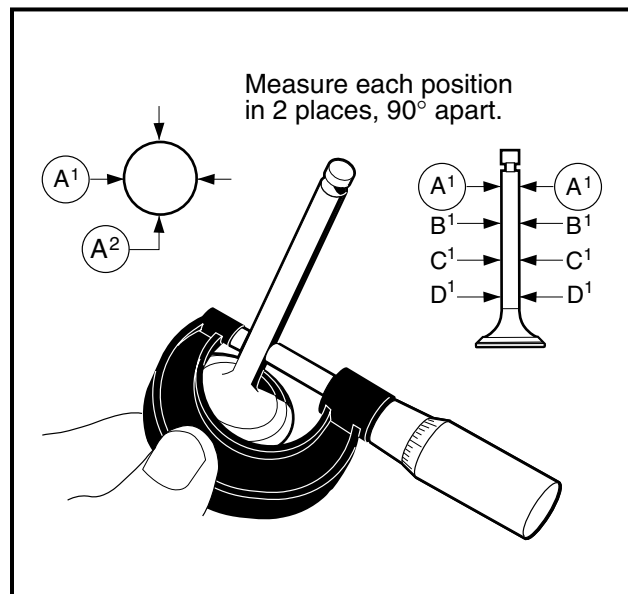

Figure 3-26 Measure Valve Stem Diameter
1. Use a micrometer to measure the diameter of the stem at several points along its length (**Figure 3-26, Page 3-14**).